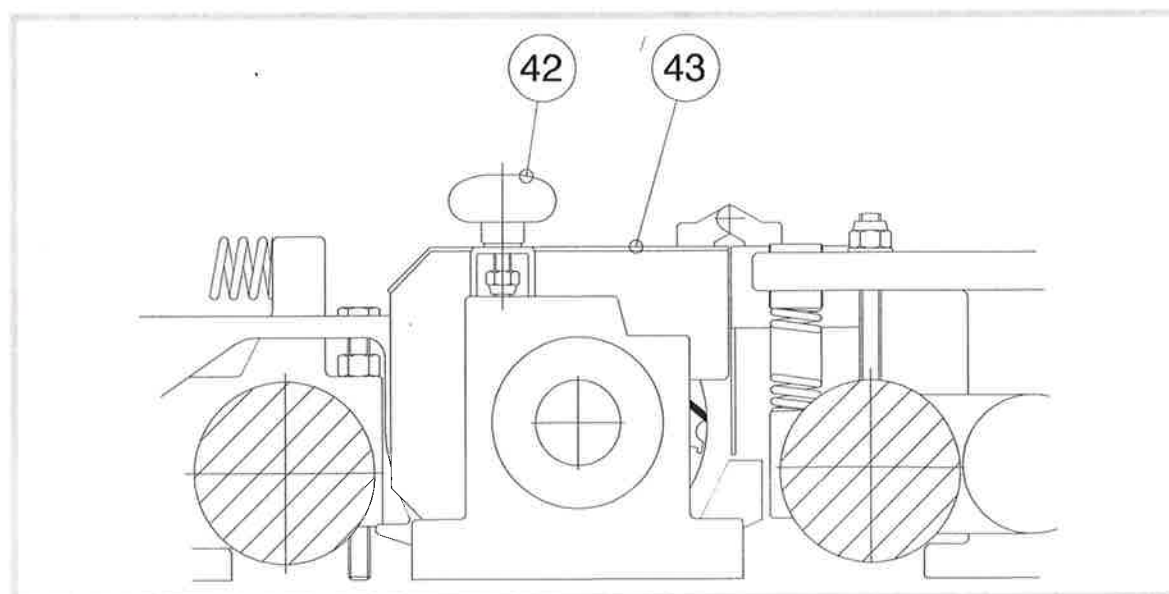

Fig. 19: Plane shaft guard
For adjusting the knives, (Fig. 19) follow the instructions below:
- b) loosen the knob (42) and open the guard of the plane shaft (43) (Fig. 19);
- c) rotate the spindle manually in the correct position, holding the brake release push button (7) pressed;
- g) replace and/or position again the knife (40) holding it pressed in its seat with a wooden piece (when replacing the knives grease them before the installation); before replacing the knives check if the dimensions and the tolerances are those indicated in Table 5: Knife dimensional features;
- h) tighten the screws (37) to lightly lock the knives, put a oil drop on the screw head to aid the tightening;
- i) position the knife adjusting tools (39) as indicated and at the ends of the plane shaft;
- j) loosen the screws (37) of the gib (38), in this way the knife (40) will be pushed against the tools (39) by the springs (41) located in the suitable seats on the shaft;
- l) tighten the screws (37) starting from the central one, then tightening on the right and on the left till reaching the ends; use the supplied wrench;